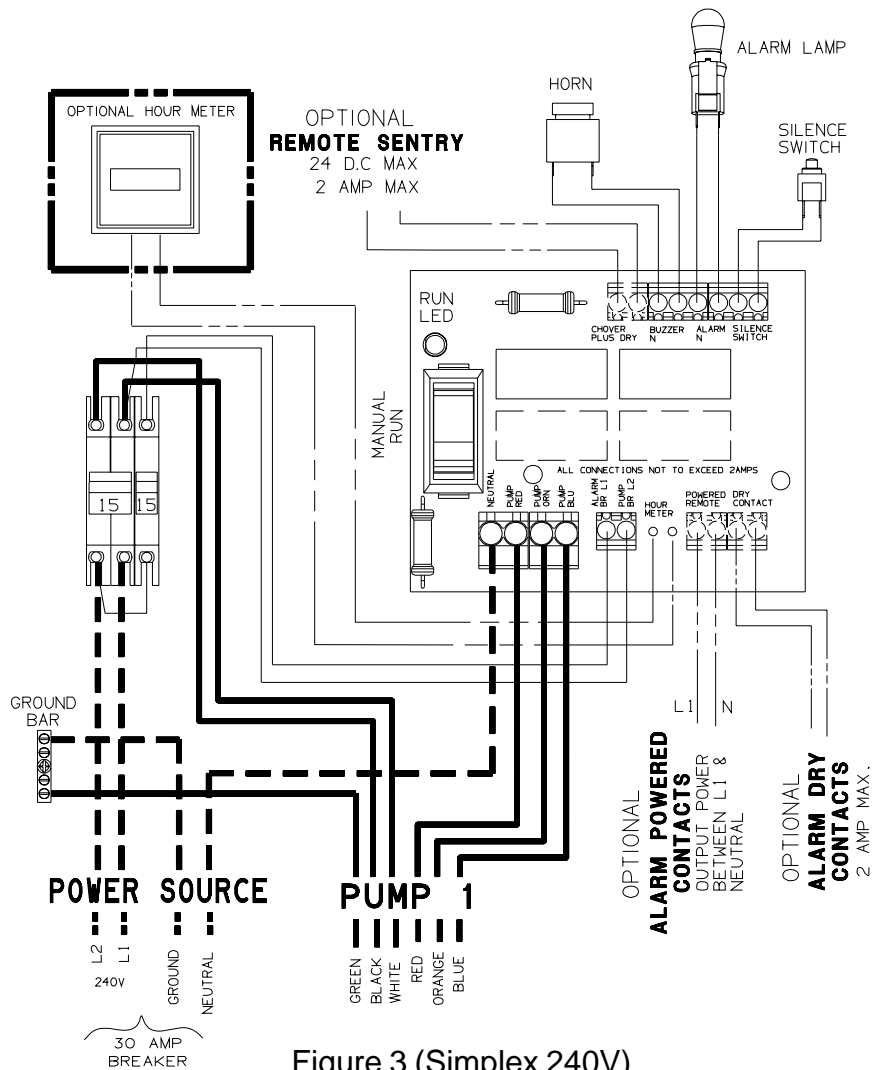

Figure 3 (Simplex 240V)
Wiring of supply panel and Environment One Alarm Panel shall be per figures 3 and 4, Alarm Panel wiring diagrams and local codes.
5. Run the cable underground, in a trench or tunnel, to the location of the E-ONE panel. Leave a 6-12 inch loop of cable at each end to allow for shifting and settling. Connections made at the panel are shown in the panel wiring diagram (Fig. 3 and 4).